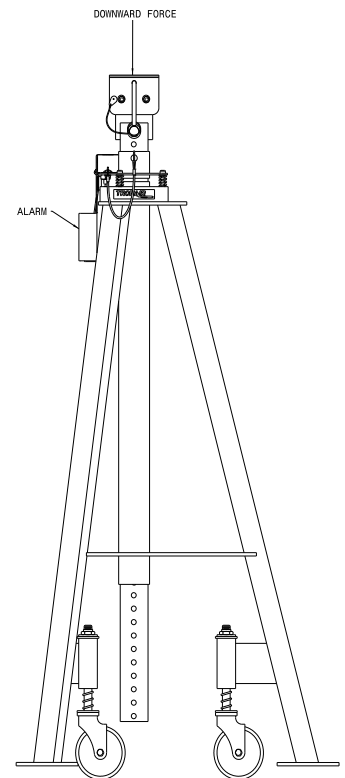

FIGURE 4
2. Test alarm by slowly applying a force evenly distributed across the top of the cradle. The cradle head will lower and engage a limit switch. A loud pulsating alarm will then sound when the force reaches between 100 to 150 lbs (45.36 to 68.04 kg). If alarm does not sound, refer to the Troubleshooting section. **Reference Figure 4**